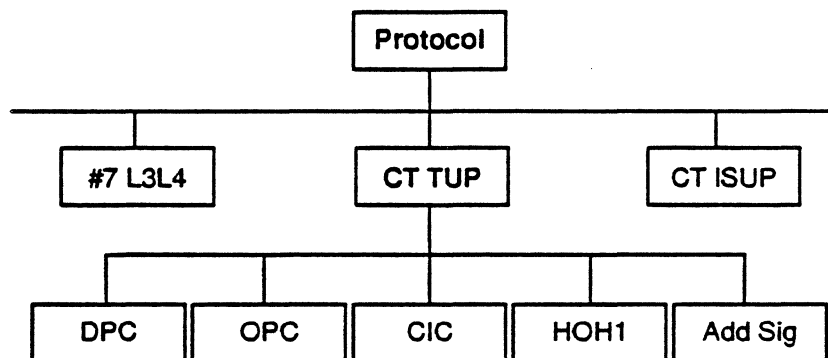

Figure 8.11: SS#7 CCITT TUP Level 3 and Level 4 Options
*F8 CT TUP* displays function key options for CCITT SS#7 Telephone User Part (TUP) triggering, as shown in Figure 8.11. This option provides direct access for writing simpler TUP triggers. Refer to *F7 #7 L3L4* for more complex Level 3 and Level 4 TUP triggering and for triggering on Signalling Indicators other than TUP. See page 8-52 for an example of an SS#7 TUP trigger.